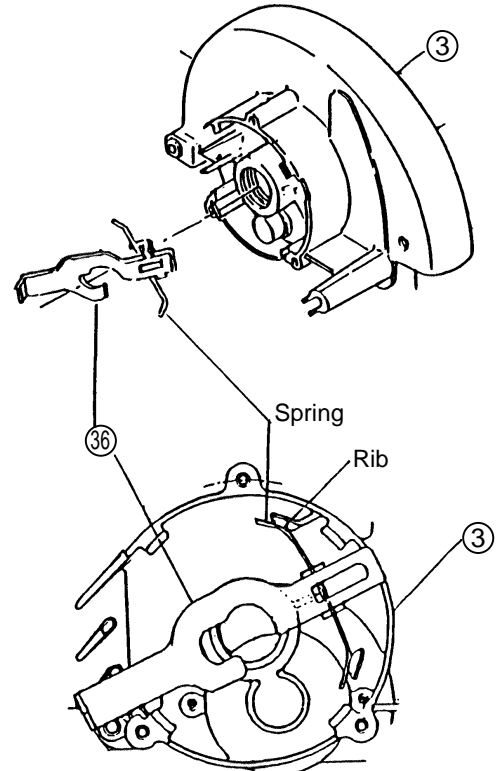

Fig. 12
- (3) Reassemble the Lock Lever (36) (See Fig. 12):
- A. Position the Lock Lever (36) between the Fan and the 6001VVCMP52L Ball Bearing (37) of the Armature (35), and carefully assemble it together with the Armature (35) into the Gear Cover Ass'y (3).
- B. Ensure that both ends of the Spring on the Lock Lever (36) are properly supported inside the ribs of the Gear Cover Ass'y (3).
- C. When assembly of the Lock Lever (36) is completed (when the Gear Cover Ass'y (3) has been assembled to the Housing Ass'y (27) and fastening with the